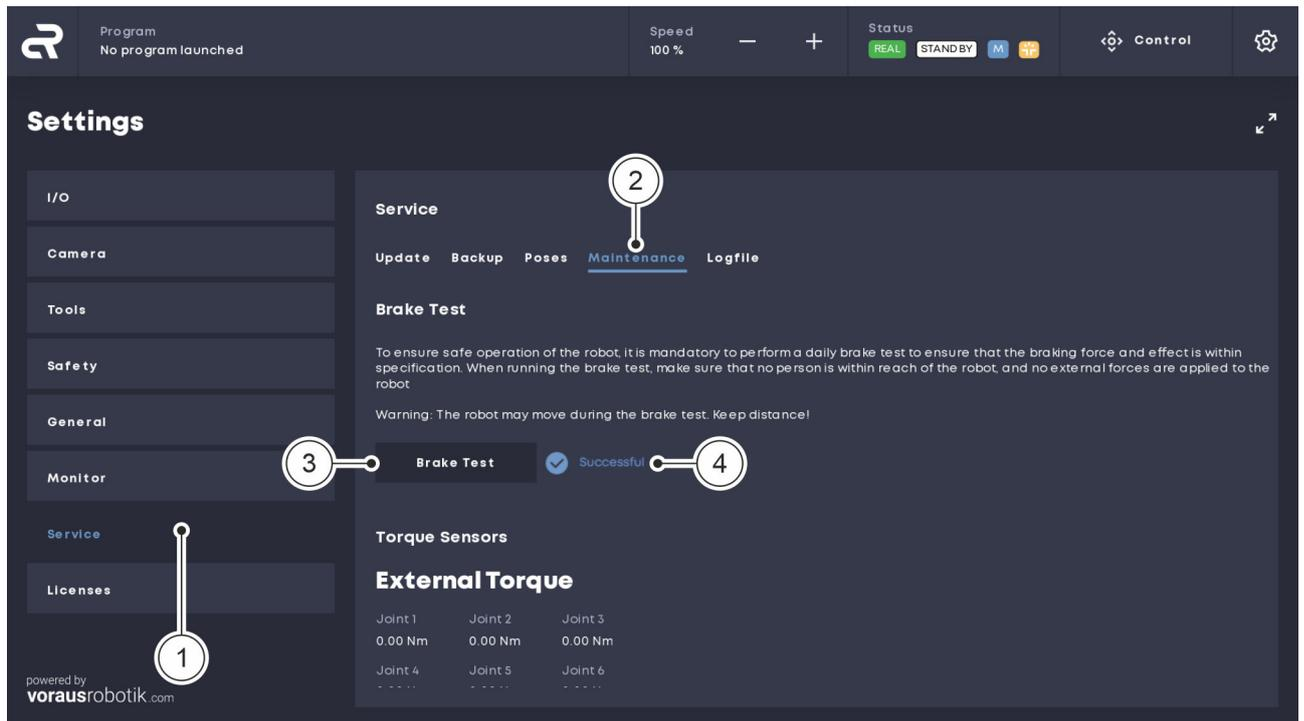

Fig. 51 Performing a brake test
02. In the 'Settings' menu, click the 'Service' button on the left-hand tab to open the service settings window Fig. 51/①.
03. In the 'Service' menu, click on the 'Maintenance' tab Fig. 51/②.
Click the 'Brake Test' button Fig. 51/③.
- After a successful brake test, the text 'Successful' is displayed Fig. 51/④.